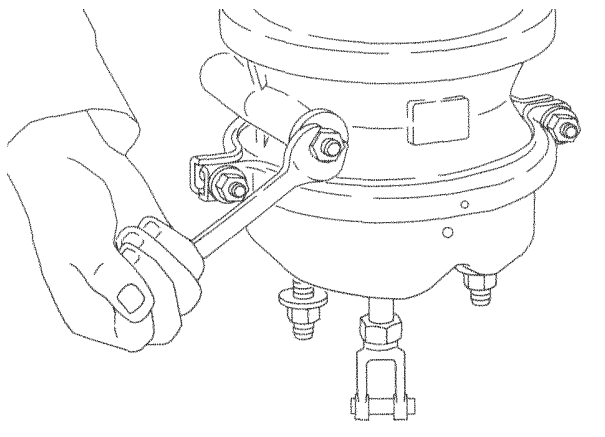

Fig. 7, Tighten the Release Nut
2. Using a hand wrench, (*don't use an impact wrench*), install the release bolt, flatwasher, and release nut in the storage pocket. Tighten the nut 60 to 96 lbf-in (680 to 1080 N-cm). See Fig. 7.